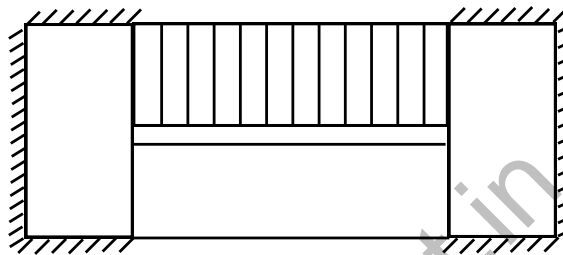

Figure 2
10. Design only the waist slab of a dog legged stair case shown in figure 2. The service live load is 5 kN/m^2 and finishes are 1.75 kN/m^2 (Projected area). The Rise and Tread of each step are 160mm and 280mm respectively and each flight is having 11 numbers of steps. The width of flight and landing are 1.25m. The landing and flight are spanning at right angles to each other. Use M25 grade concrete and Fe415 type steel. Detail the design by a neat diagram. 13